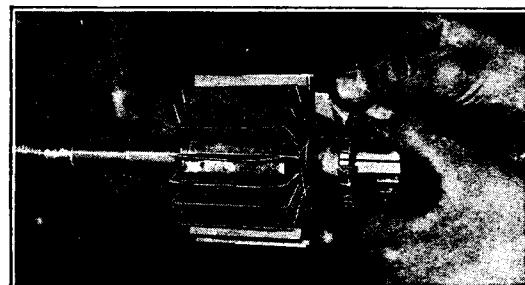
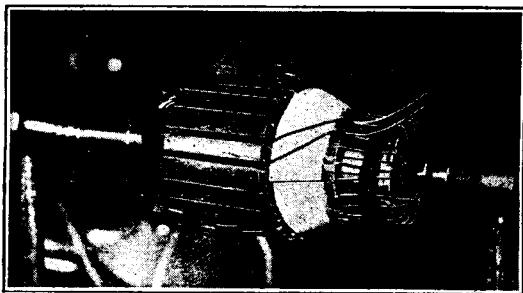
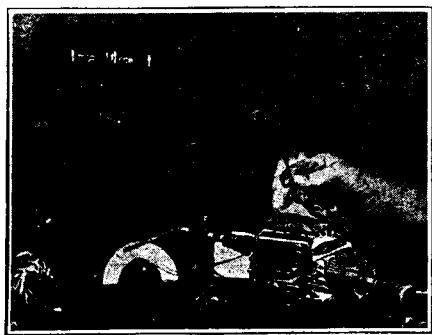

Figure 1
Figure 3
Figure 4
When winding an armature, the job can be simplified by mounting the armature into a rack such as shown in Fig. 4. A rack of this nature can be easily constructed of wood by having the upright pieces mounted on a solid base and using wood screws or nails to form the points which fit into the center holes in the ends of an armature shaft.
The first step after the armature has been stripped is to test each bar to see that there is no short between it and the bar on either side of it or to the shaft. This can be done by means of the lamp test as described above. If any shorts or grounds appear they will have to be cleared by means of scraping away any foreign substances from between the bars and the shaft. If this cannot be done, it will be necessary to replace the commutator. Next, insulate that portion of shaft between the core and the commutator by means of adhesive tape or gummed paper as shown in Figure 1. This figure also shows the end laminations and armature insulation paper in place. Figure 2 shows an advanced stage in winding, with several coils wound, also showing some of the slots closed by means of the wooden wedges. Figure 3 shows the slots all closed. Note carefully how the tail end wire of each coil is folded back to
The coil consists of a primary winding of 288 turns tapped at the 238th turn, and a secondary of 105 turns tapped at the 60th turn. Prepare a winding spool of hard wood, to the dimensions given in Fig. 1. Fasten the spool end (1) to the large end (X) of the spool drum (2) with flat head wood screws, and fasten spool
end (3) to the tapered end (2) of the drum with round head wood screws and washers. Lay an 18" piece of stout string along each of the four sides of the spool drum, allowing the ends to project equally over the end pieces. Wrap a layer of .010 armature paper over the strings and around the drum, then tie the paper in place with a few turns of linen thread. Fasten the ends of the string out of the way by means of small tacks on the outsides of the spool ends. (See Fig. 1.)
Build up the iron core as in Fig. 2. Requires 17 to 18 lbs. of 26 ga. silicon steel. All core dimensions are given in Fig. 2 and Fig. 3. In Fig. 3, "First Layer," and "Second Layer," explain the method of arranging the alternate layers. Stagger all joints as shown in these diagrams, and be sure to fit all joints accurately. Tight joints in the core irons will prevent power loss and overheating. Use sufficient metal in the core to give a stack $1\frac{1}{4}$ " thick when compressed. A total of 93 pieces to each of the four sections.
Form the four core clamps according to Fig. 4. Carefully clamp one end of the core, drawing the $\frac{1}{4}$ " bolts up snugly enough to hold the core while the clamps are put on the other end. Now tighten both clamps, and wrap one layer of armature paper on the core leg that is to hold the coil. Over the paper, wrap one layer of 1" "Empire Cloth," or varnished cloth, starting at the bottom, and spiraling toward the top. Allow it to overlap a little less than half its width. A little of the insulating varnish applied to the under side of the cloth as it is wound will hold it. Trim away the surplus cloth and allow the varnish to dry. In the centers of two 5" squares of $\frac{1}{4}$ " fiber (11, Fig. 6), cut openings one and thirteen-sixteenths by two and one-sixteenth inches. Take off the top core clamp and carefully remove the end section of the core as shown in Fig. 4. Slip one of the fiber squares over the cloth covered core leg, slide
Lay out and drill the terminal panel made from $\frac{1}{4}$ " tempered pressed wood obtained from lumber yard. Form loops in the ends of the secondary leads by wrapping them around the brass bolts forming the secondary terminals. Run solder over these loops, Fig. 4. Cut the brass buss bar in the double outlet, removing enough of it so that no short will be possible between the high and low primary leads, which are connected to the two resulting terminals as shown in Fig. 6. The primary common lead (4) is connected to the brass buss as is, thereby making contact with both outlets, Fig. 6. Connect the secondary leads to their proper terminals, Fig. 6, and label them. Bolt the panel in place on the core clamps.
The core, Fig. 1, compresses to a thickness of $2\frac{1}{2}$ " and is built up to the specifications in Fig. 2.
The coil is wound on a spool (Detail 3C). Lay 24" pieces of strong string along the four sides of the spool drum, and over them a double layer of armature paper (.010) is bound in place with thread. (Fasten the ends of the string out of the way by means of small tacks on the outsides of the spool ends.) Over this paper, wind the primary (Fig. 4 and Fig. 3 key), tapping the winding at various number of turns as indicated. All terminal leads (1), (2), (3), (4) and (5) are of No. 8 wire. They are all 12" long and are labeled. Taps are bound to the main wire with fine copper wire, the joints soldered and taped. Fasten lead (5) with tape and wrap the primary with two layers of armature paper and one layer of varnish cloth .007 thickness, bound with thread.
Fig. 3 shows the completed transformer. Detail 3A shows the construction of the core clamps and the terminal panel ($\frac{1}{4}$ " or $\frac{3}{16}$ " tempered pressed wood, obtained at lumber yard) which mounts to clamp (6). Mount the clamps and panel.